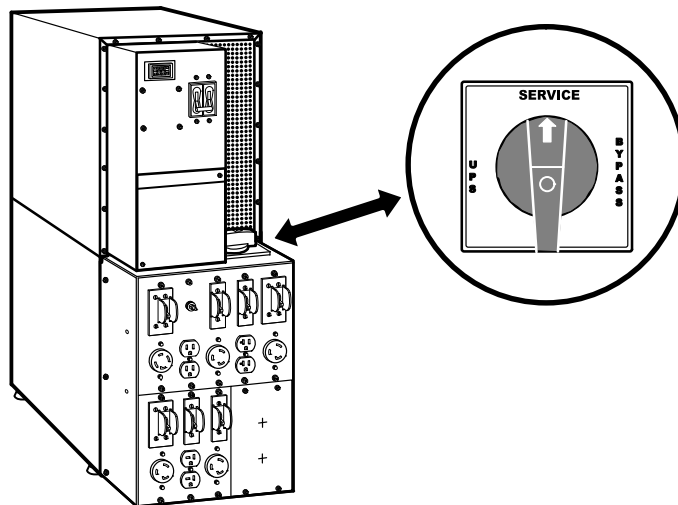

Figure 45. Maintenance Bypass Switch (PDM Shown)
1. If you have an optional MBM/PDM or wall-mounted bypass switch, verify that the maintenance bypass switch is in the UPS position (see Figure 45 on page 68 or Figure 48 on page 72).
1. Verify that the maintenance bypass switch is in the BYPASS position (see Figure 45 on page 68).
The UPS-mounted maintenance bypass switch is part of the optional Maintenance Bypass Module (MBM) or Power Distribution Module (PDM) and is located on the back of the UPS (see Figure 45).